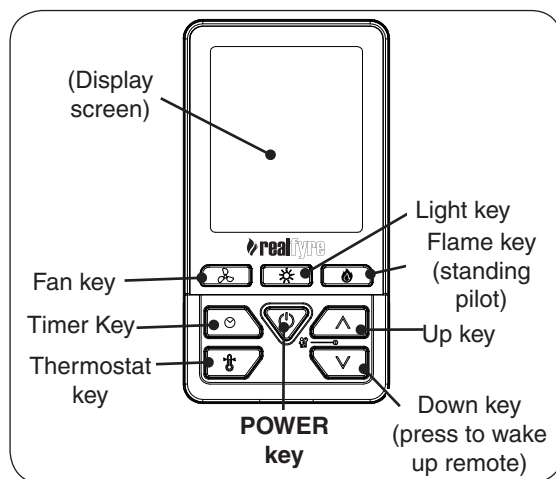

Fig. 35-3 Remote transmitter detail
2. Locate the remote transmitter and press the UP or DOWN key to wake up the remote. Then press the **POWER** key (see Fig. 35-3). The screen will display data, the system will beep, and the ignition sequence will begin.